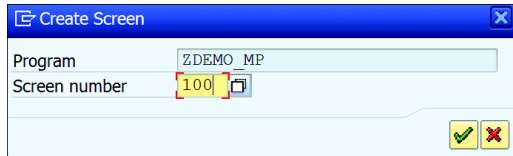

Figure 12.9 Create Screen Window
- On the CREATE SCREEN dialog box that appears (see Figure 12.9), enter the SCREEN NUMBER and click the green checkmark. The screen number should be unique for the program and can be up to four digits. Screen numbers above 9000 are reserved for SAP customers. The initial screen of the program usually ends with 100.